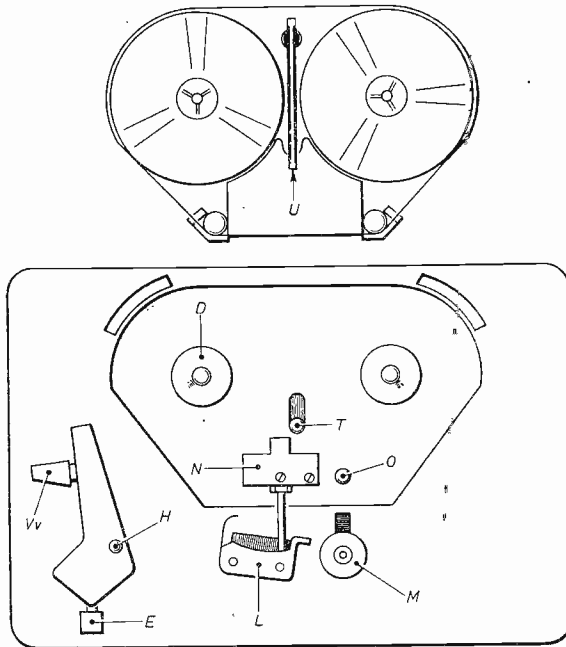

Fig. 3. Skeleton plans of the Garrard Magazine tape deck—left, top of deck; right, underside of deck. (Note: These sketches are not to scale.)
have been employed (Fig. 3). The idler pulley (A) is permanently sprung against the flywheel (B) from main drive motor (C), which runs continuously. There is no conventional braking system, merely a friction disc on the spindle of the reservoir spool (D) to avoid overspill. (Braking, which is done on the magazine itself, will be described later.)